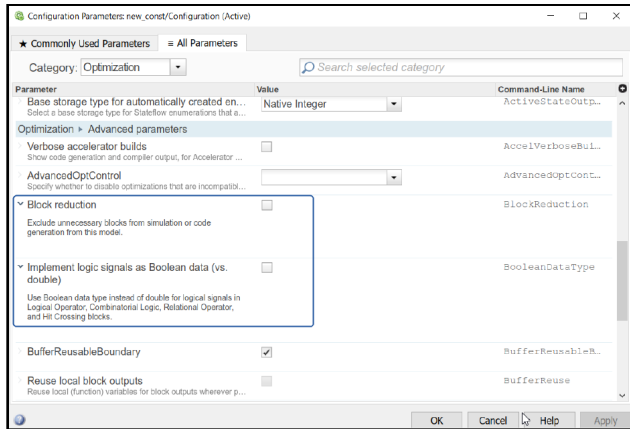

Fig. 3-5 Disable the "Block reduction" and "Implement logic signals as Boolean data (vs. double)" Options
3. Deselect the "Value" checkbox to disable the option as shown in Fig. 3-5.